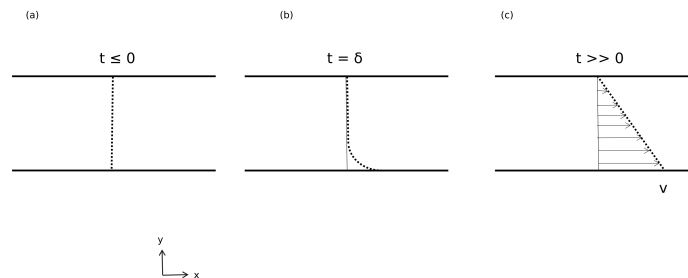

Figure 1.1: Fluid between 2 plates
- Consider two parallel plates : one placed at $y = 0$ and the other placed at $y = Y$ as shown in figure 1.1, with a static fluid between them. Here we assume these plates are basically infinitely long and wide so that the fluid doesn't move. Figure 1.1(a) shows how the fluid velocity is 0 at every point between the two plates.
- Now, let us see what happens when we begin to translate the bottom plate to the right. Assuming there is no slip between the fluid and the plate, i.e. that the fluid that comes into contact with the solid is "stuck" to it. At the molecular scale, this is because we consider adhesive forces of attraction between molecules of the fluid and the solid are stronger than the cohesive forces of attraction among the molecules of the fluid themselves. So when we move the bottom plate, the molecules in contact with it start to move along. Figure 1.1(b) describes a snapshot of the system where the molecules "stuck" to the plate have just started to move but the molecules above them haven't been impacted yet.
- Over time, the fluid layers begin to pull each other and due to this, momentum gets imparted along the y direction. Figure 1.1(c) showcases the steady-state velocity profile of the fluid. Again, at the top plate the fluid doesn't move since the molecules are assumed to be "stuck" to the plate.